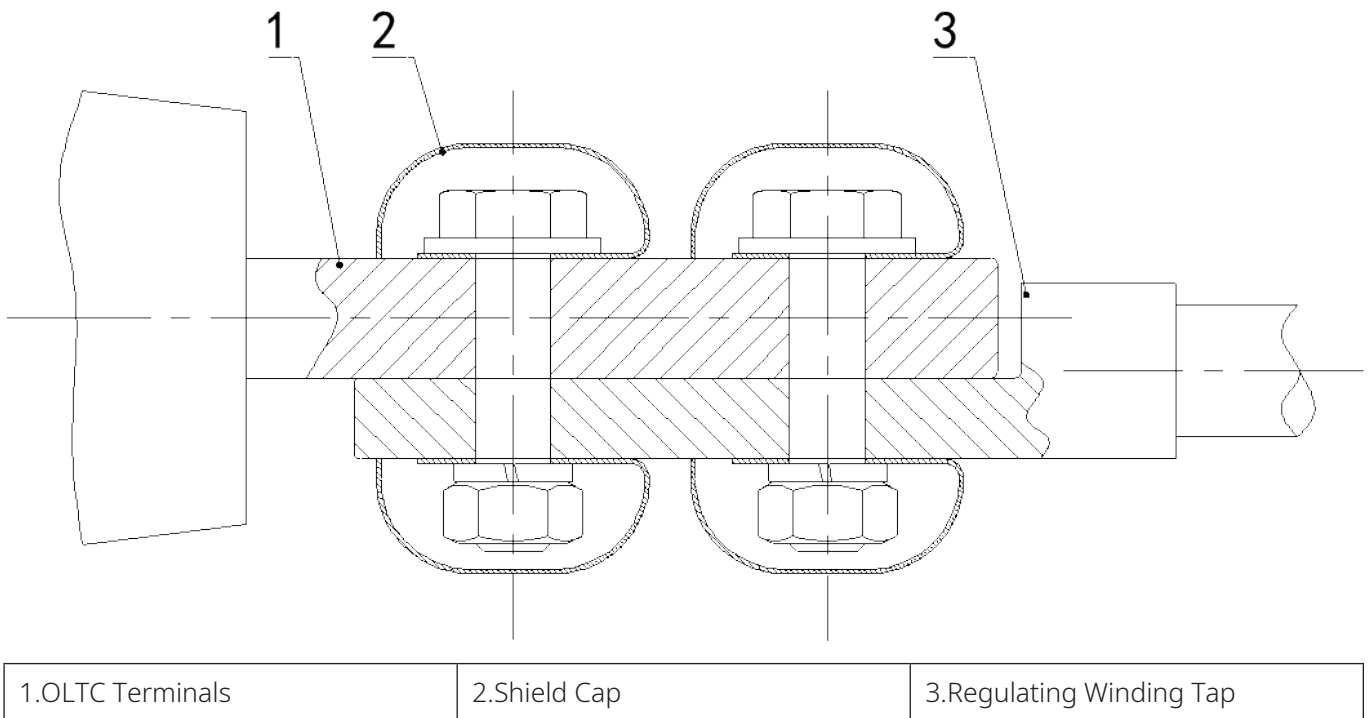

Figure 8-3 Cross-Sectional View of Regulating Winding Tap Connection to OLTC Terminal
1. Make preliminary connections as shown in Figure 8-3.